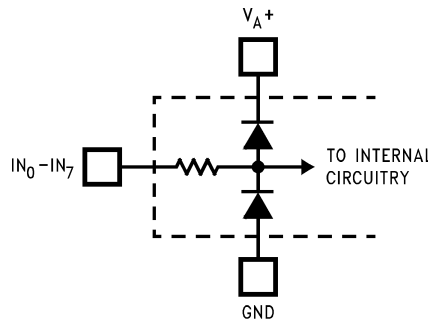

Figure 3.
- Two on-chip diodes are tied to each analog input through a series resistor, as shown below. Input voltage magnitude up to 5V above V_{A+} or 5V below GND will not damage the LM12L458. However, errors in the A/D conversion can occur if these diodes are forward biased by more than 100 mV. As an example, if V_{A+} is 3.0 V_{DC} , full-scale input voltage must be $\approx 3.1 V_{DC}$ to ensure accurate conversions. See Figure 3
- (1) Two on-chip diodes are tied to each analog input through a series resistor, as shown below. Input voltage magnitude up to 5V above V_{A+} or 5V below GND will not damage the LM12L458. However, errors in the A/D conversion can occur if these diodes are forward biased by more than 100 mV. As an example, if V_{A+} is 3.0 V_{DC} , full-scale input voltage must be $\approx 3.1 V_{DC}$ to ensure accurate conversions. See Figure 3
- (2) V_{A+} and V_{D+} must be connected together to the same power supply voltage and bypassed with separate capacitors at each V^+ pin to assure conversion/comparison accuracy.
- (3) Accuracy is ensured when operating at $f_{CLK} = 6$ MHz.
- (4) Typical figures are at $T_A = 25^\circ C$ and represent most likely parametric norm.
- (5) Limits are specified to AOQL (Average Output Quality Level).